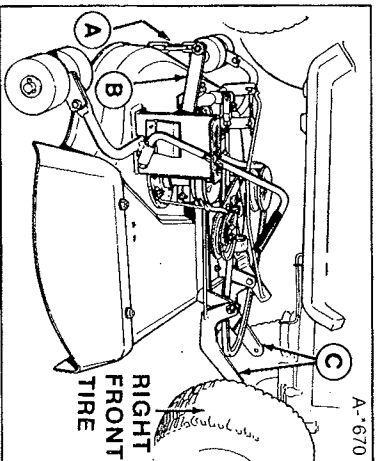
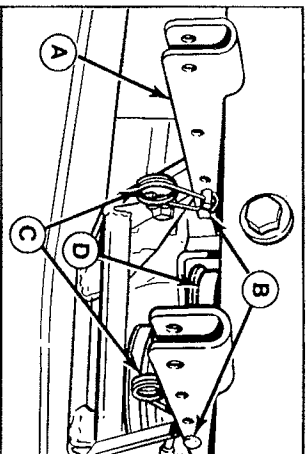

Figure 1. Installing 36" Mower
Figure 2. Mower Hitch Attached
The lift chain (A, figure 1) should be connected to the rear hole in lift arm (B) unless optional large lift lever (B, figure 8) is used to raise mower. With large lift lever, connect chain in forward hole.
2. Turn the tractor front wheels full left (figure 1).
aligning arms (C, figure 1) with tractor hitch (A, figure 2).